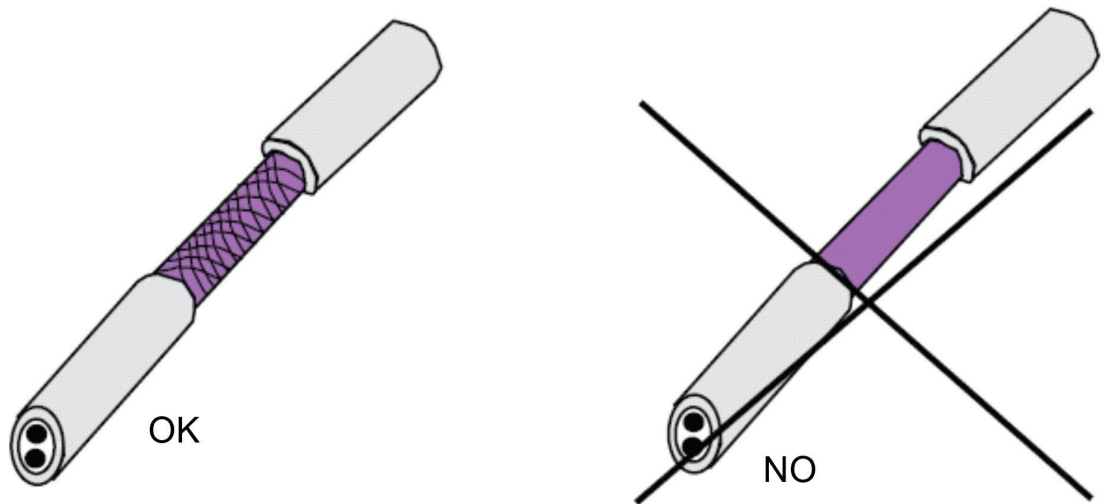

Figure 1.15 – Wire mesh (Ok) and metal plate cover (No)
- The connection between the shield and the equipotential bonding must only be made using the braided screen. Many cables also feature a foil screen (Figure 1.15). This foil must not be used for the connection. It is generally synthetically coated on one side to improve stability and the plastic coating acts as insulation.